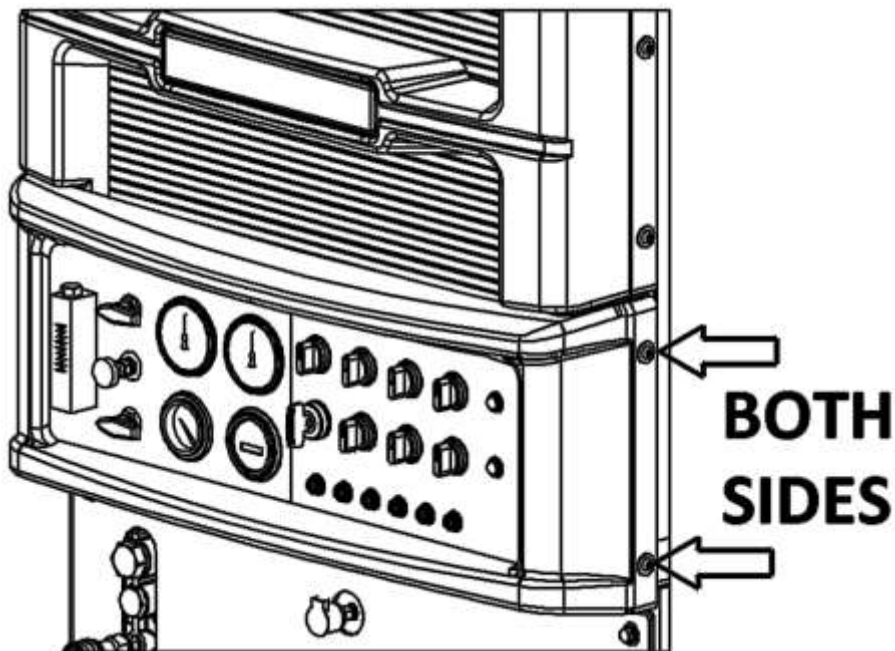

Figure 1 – Remove lower bezel screws
1. Remove the lower front-end bezel by removing the four (4) mounting screws (shown in Figure 1). Carefully set the bezel aside.